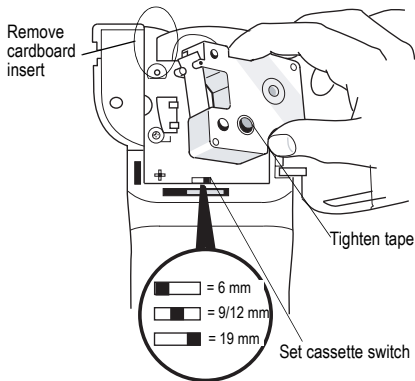

Figure 3
⚠ The first time you use the printer, remove the protective cardboard insert from between the print head and pinch roller. See Figure 3.
2. Set the cassette switch for the size of the tape cassette that you are inserting. See Figure 3. A notch in the cassette fits over the switch when the cassette is in the correct position.